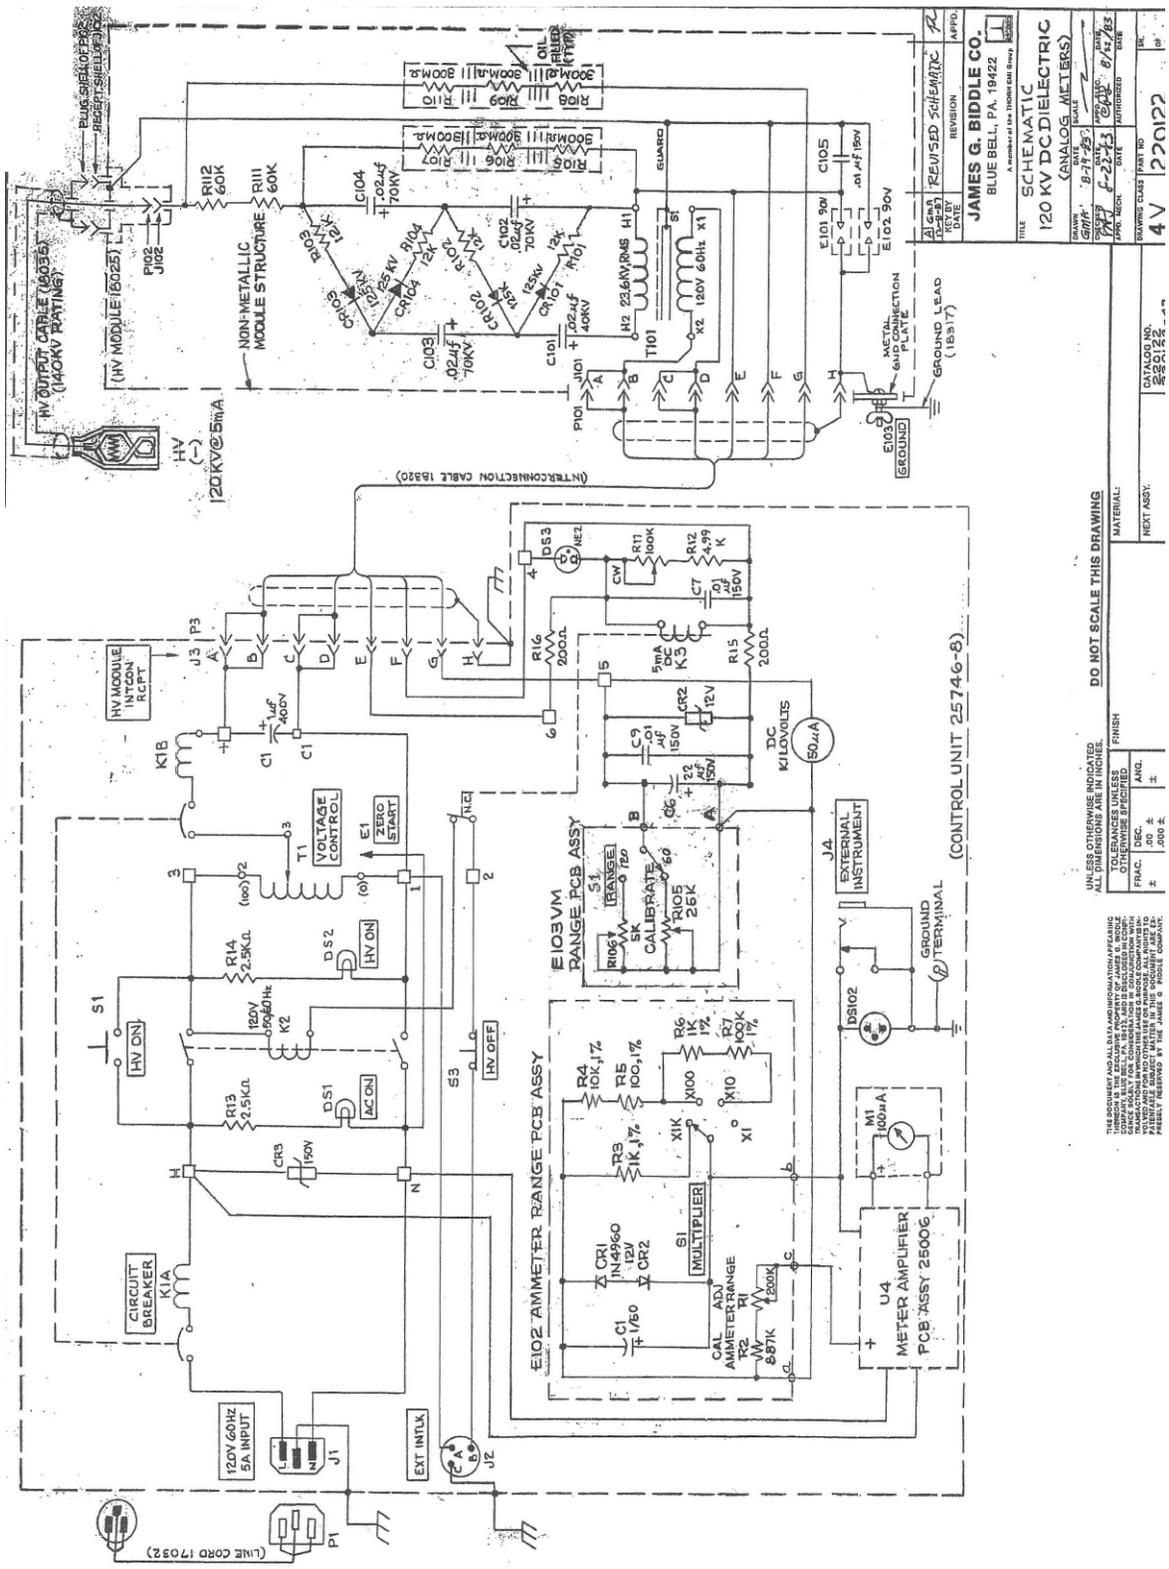

Figure 12: Analog Meter Schematic Diagram Test Set, 120 kV
2. Connect the test set to the appropriate value resistive load bank as shown in Figure 12. Observe the setting up procedure described in Section 5.